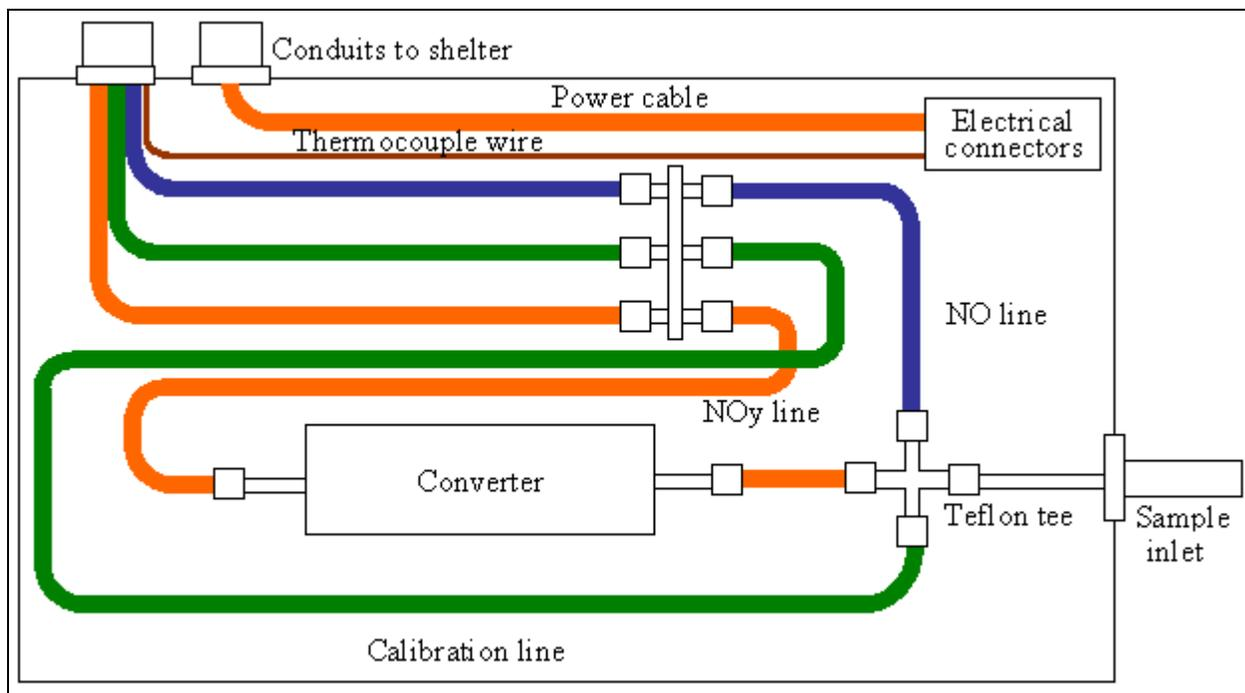

Figure 3-2. Schematic of plumbing and wiring for 42CY External Converter
9. Using ¼ inch PFT Teflon™ tubing, plumb the inlet as shown in Figure 3-2.
13. Connect the two sample lines, calibration line, thermocouple wire, and power cable inside the converter enclosure as shown in Figure 3-2, and secure the conduits to the converter enclosure.